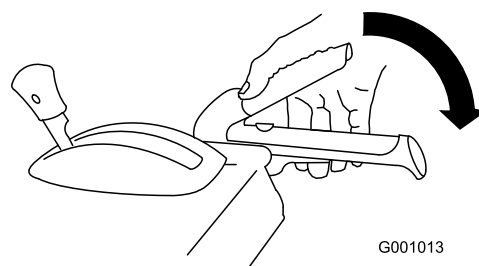

Figure 37
2. Engage the auger/impeller lever and hold it in place (Figure 37).